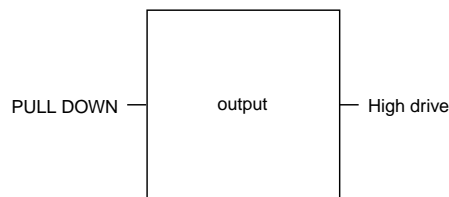

Figure 8-6 Example of the Placement of Pull-Up/Pull-Down Pins – 2
- b) Place the pull-up/pull-down resistors so that they are separated from the output-signal pins (particularly large-current output pins) (Figure 8-6).